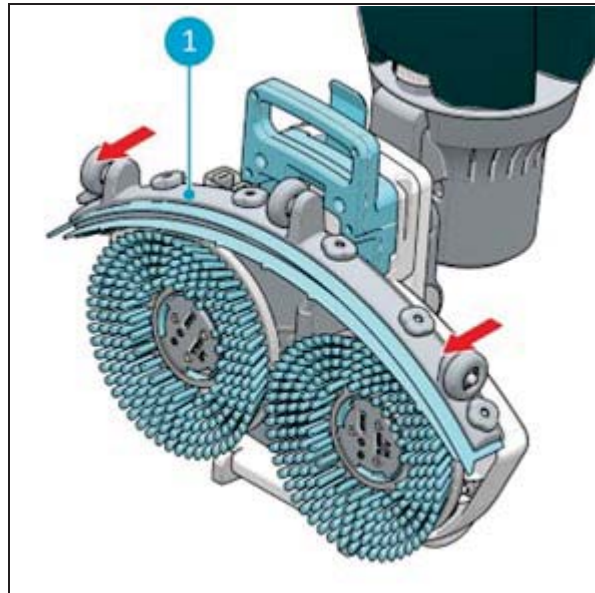

Figure 26
3. Pull on the left side of the squeegee (Figure 26, pos 1) to remove it.